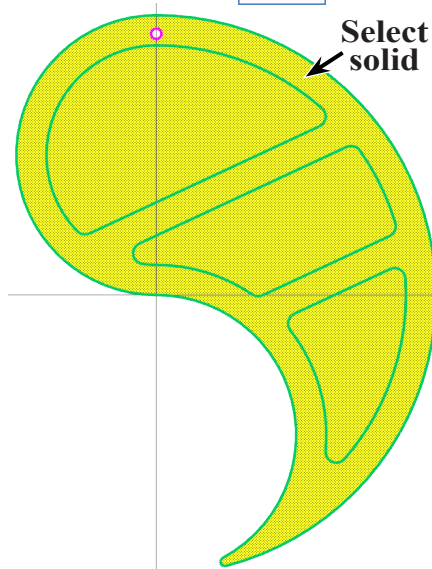

Fig. 47
Step 4. Click the **solid body** to select it and click **End Selection** (ENTER), Fig. 47.